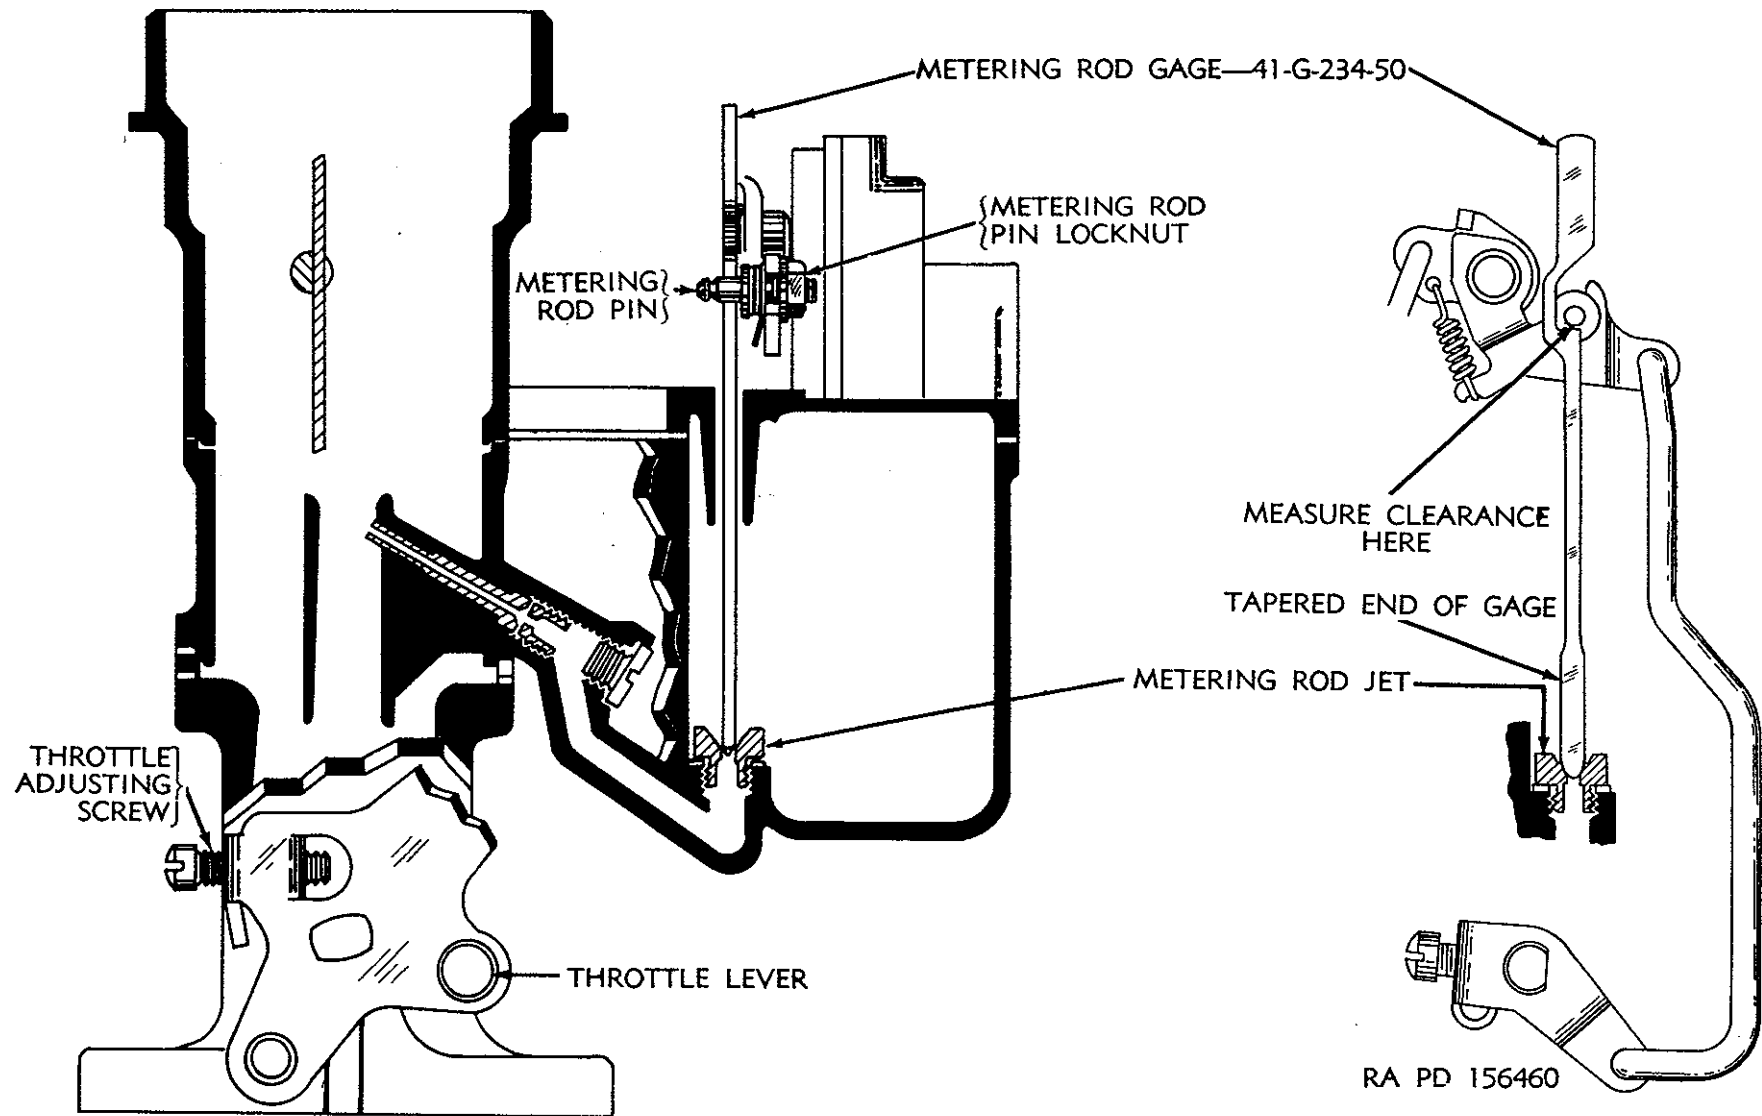

Figure 35. Gaging metering rod.
*b.* Insert metering rod gage 41-G-196-50 (table V, par. 44), in place of metering rod, with tapered end seated in metering rod jet (fig. 35). Metering rod pin on arm should be free but there should be less than 0.005-inch clearance between the metering rod pin and shoulder of gage, adjust if necessary, using wrench to loosen or tighten metering rod pin lock nut.